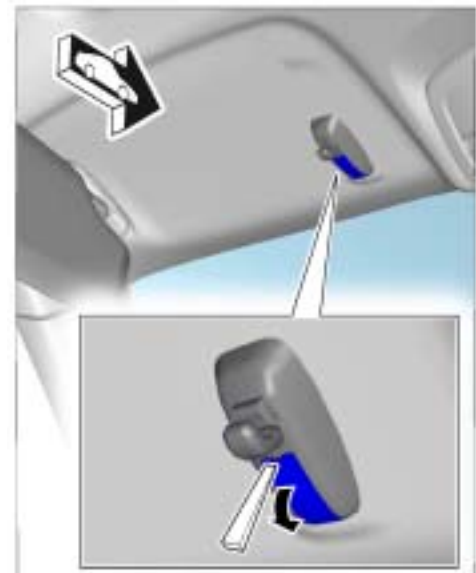

Figure 9
- 1.7.1 Open cover for sun visor holder ⇒ *Figure 9-arrow-*.